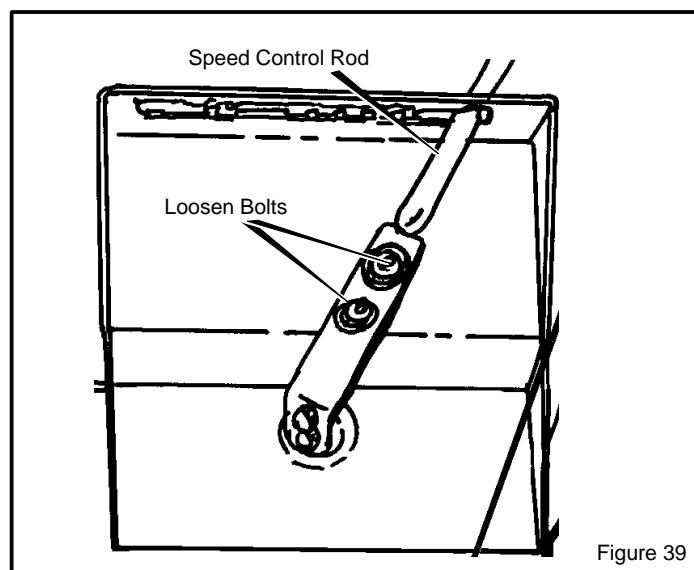

Figure 39
2. Loosen the **bolts** on the **speed control rod** (see Figure 39).
4. Tighten the **bolts** on the **speed control rod** (see Figure 39).